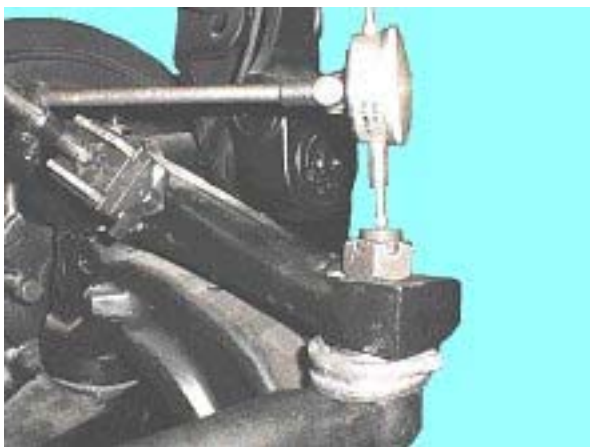

Figure 3 Figure 3
8. Mount a magnetic based dial indicator on the steer arm, with the indicator tip contacting the center of the drag link ball stud (as shown in Figure 3).